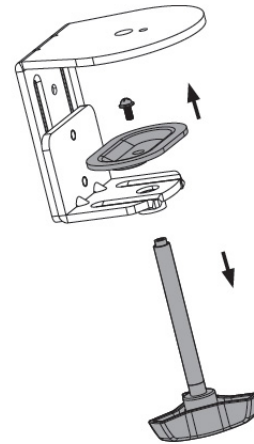

Figure 3
1. Remove the support plate from the Clamp Screw using a Phillips screwdriver. Remove the the Clamp Screw by turning it counter clockwise, see **Figure 3**.
1. Position the Tube Support (B) on the mounting surface and mark the center hole. Remove the tube support. Drill a 1/2" (12mm) diameter hole at the marked position through the mounting surface.
2. Remove the support plate from the Clamp Screw using a Phillips screwdriver. Remove the Clamp Screw by turning it counter clockwise, see **Figure 3**.